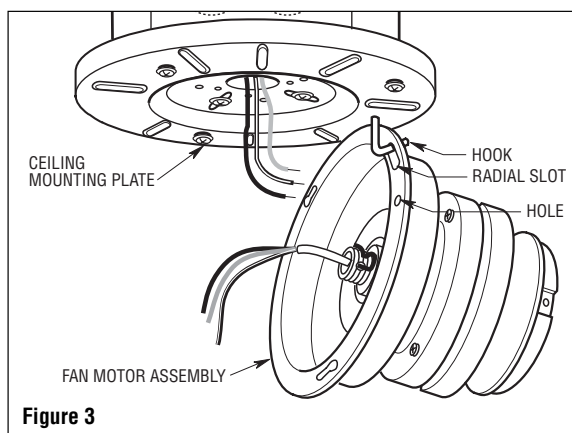

Figure 3
1. Temporarily hang the fan motor assembly onto the ceiling mounting plate hook using the radial slot (Figure 3).